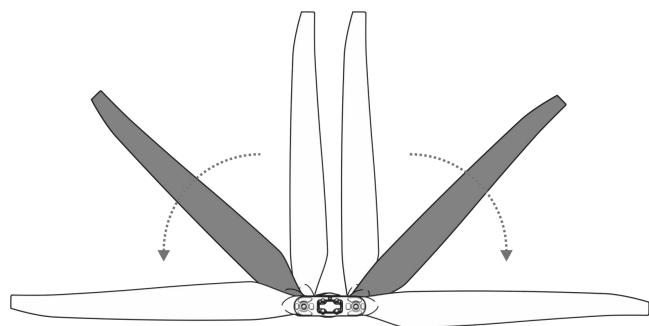

Figure 1-35 Unfold the Propellers
**Step 5:** Unfold the propellers to 180°, as shown in Figure 1-35.